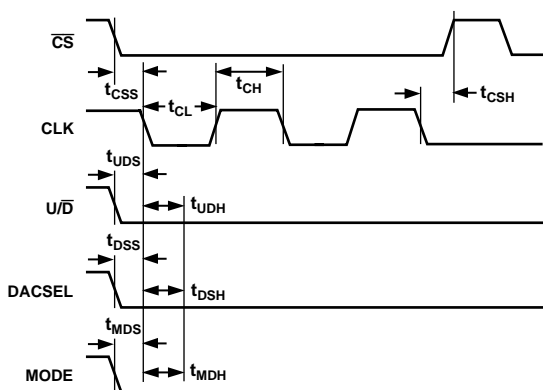

Figure 2. Detail Timing Diagram
The AD5222 provides a 128-position, digitally-controlled, variable resistor (VR) device. Changing the VR settings is accomplished by pulsing the CLK pin while \overline{CS} is active low. The U/\overline{D} (UP/DOWN) control input pin controls the direction of the increment. When the wiper hits the end of the resistor (Terminal A or B) additional CLK pulses no longer change the wiper setting. The wiper position is immediately decoded by the wiper decode logic changing the wiper resistance. Appropriate debounce circuitry is required when push-button switches are used to control the count sequence and direction of count. The exact timing requirements are shown in Figure 2. The AD5222 powers ON in a centered wiper position, exhibiting nearly equal resistances of R_{WA} and R_{WB} .